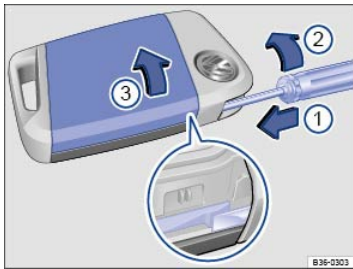

Fig. 50 Remote control vehicle key: Opening the battery compartment cover.
The battery is in the back of the remote control vehicle key under a cover → Fig. 50③.
Key to → Fig. 50 :
- Insert a small, flat-blade screwdriver into the emergency key slot → Fig. 50①.
- Turn the screwdriver in the direction of the arrow until the cover opens → Fig. 50②.
- Remove the cover in the direction of the arrow → Fig. 50③.